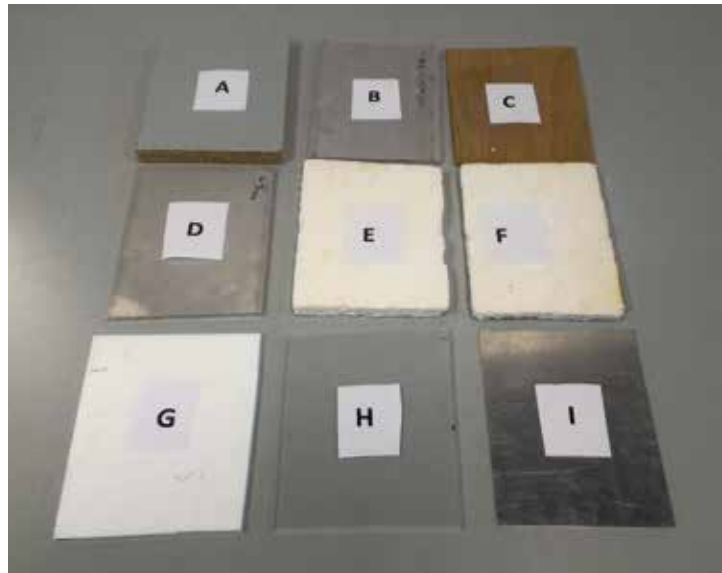

Figure 3
1. Lay each of the plates out on a table. Use pieces of folded paper to label the plates A, B, C, D, E, F and G as shown in Figure 3.